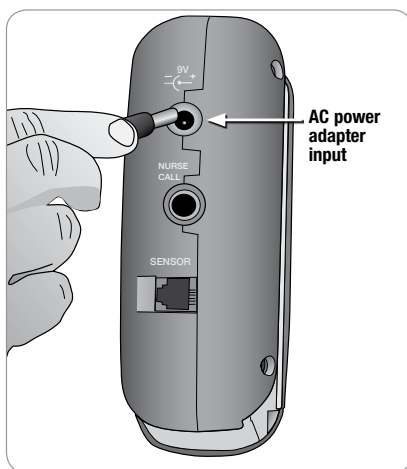

Fig. 19
1. Connect the AC power adapter to the Sitter Elite (Fig. 19).